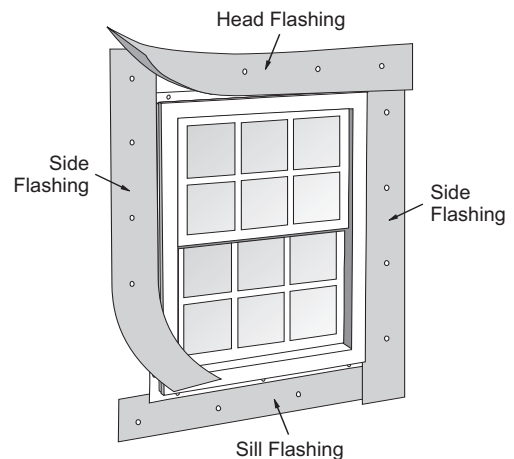

Figure 6
12. Use a 6" felt paper, or equivalent, flashing over the nail fin on jambs first. Flashing should extend 6" above the head of the window and 6" below the sill of the window. Apply the flashing at the head and overlap the jamb flashing on either side. (See Figure 6)